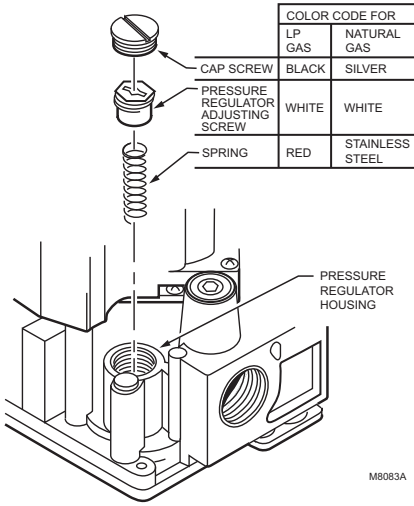

Fig. 2. Install conversion kit in regulated gas control.
4. Insert the replacement spring with the tapered end down. See Fig. 2.